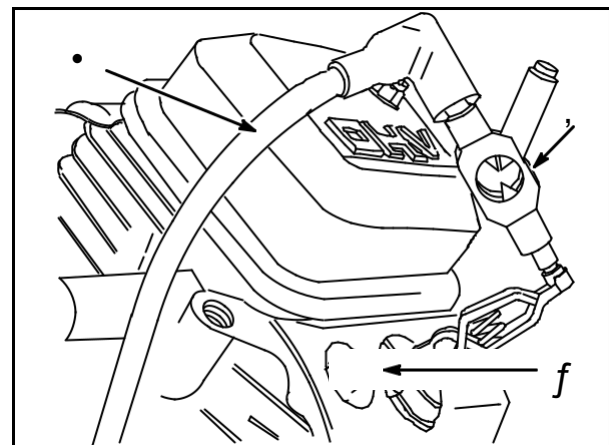

Fig. 2
If the engine runs, but misses under load, test the ignition by installing an Ignition Tester #19368 (2) between the spark plug lead (1) and each spark plug (3), **Fig. 2**. A spark miss will be readily apparent when the engine is running. If the spark appears good in the tester but the engine misses, check for a fouled spark plug.